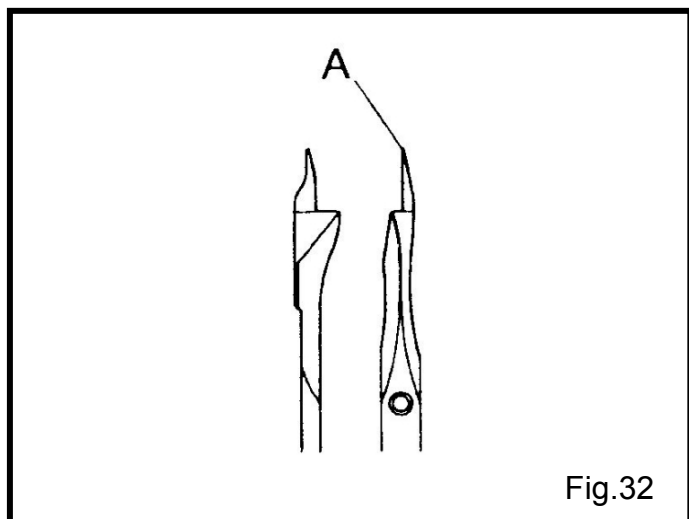

Fig.32
鬆開螺絲④調整位置，視刀的邊緣和刀齒去輕微的調整使導布器上的A點跟4支針的中間成一直線。(Fig.32,33)
Align the point A of the lap former① with the center of four needles. Depending on lapped edges of the fabrics or fabric feeding, loosen the screws④ and adjust the position. (Fig.32,33)